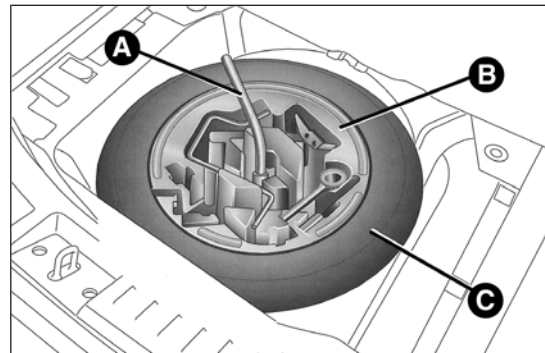

fig. 116
- using the wrench A fig. 116 located in the tool box, loosen the locking device, take the tool box B and place it close to the wheel to be replaced. Then take the space-saver wheel C;